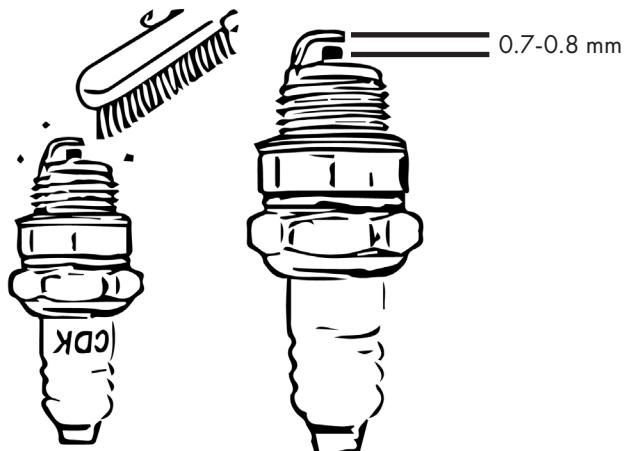

Figure 19
- Set the electrode gap to a target value of 0.7-0.8 mm. See Fig. 19.